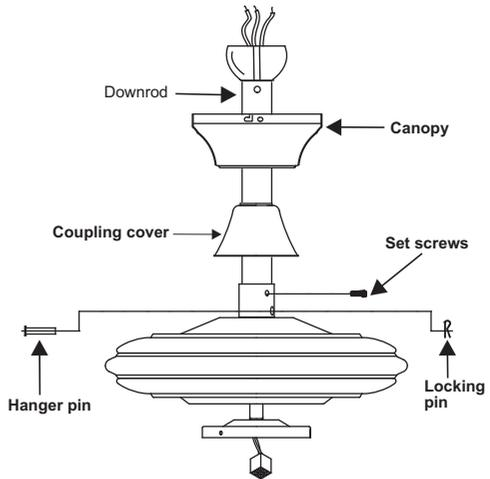

Figure 6
Step 4. Route wires exiting from the top of the fan motor through the coupling cover, canopy and then through the ball / downrod. (Fig. 6)
Step 5. Align the holes at the bottom of the downrod with the holes in the collar on top of the motor housing. Carefully insert the hanger pin through the holes in the collar and downrod. Be careful not to jam the pin against the wiring inside the downrod. Insert the locking pin through the hole near the end of the hanger pin until it snaps into its locked position, as noted in the circle inset of Fig. 6.
Step 6. Tighten two set screws on top of the fan motor firmly. (Fig. 6)